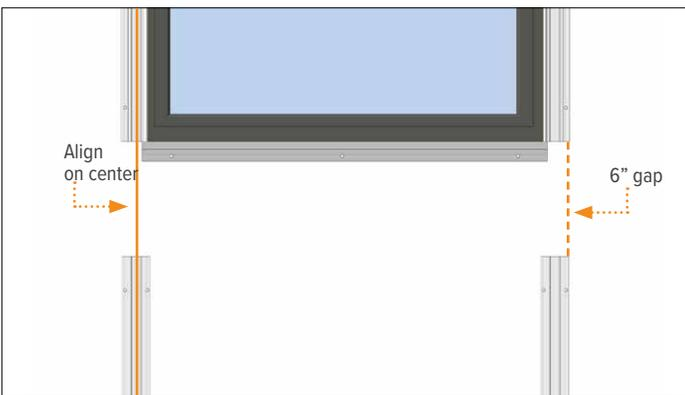

Figure 19.1
- Below the bottom of the window align the center of the EZ.7 back plate with the center of the EZ.19 back plate leaving the EZ.7 back plate 6" down from the window sill and fasten. (Figure 19.1)